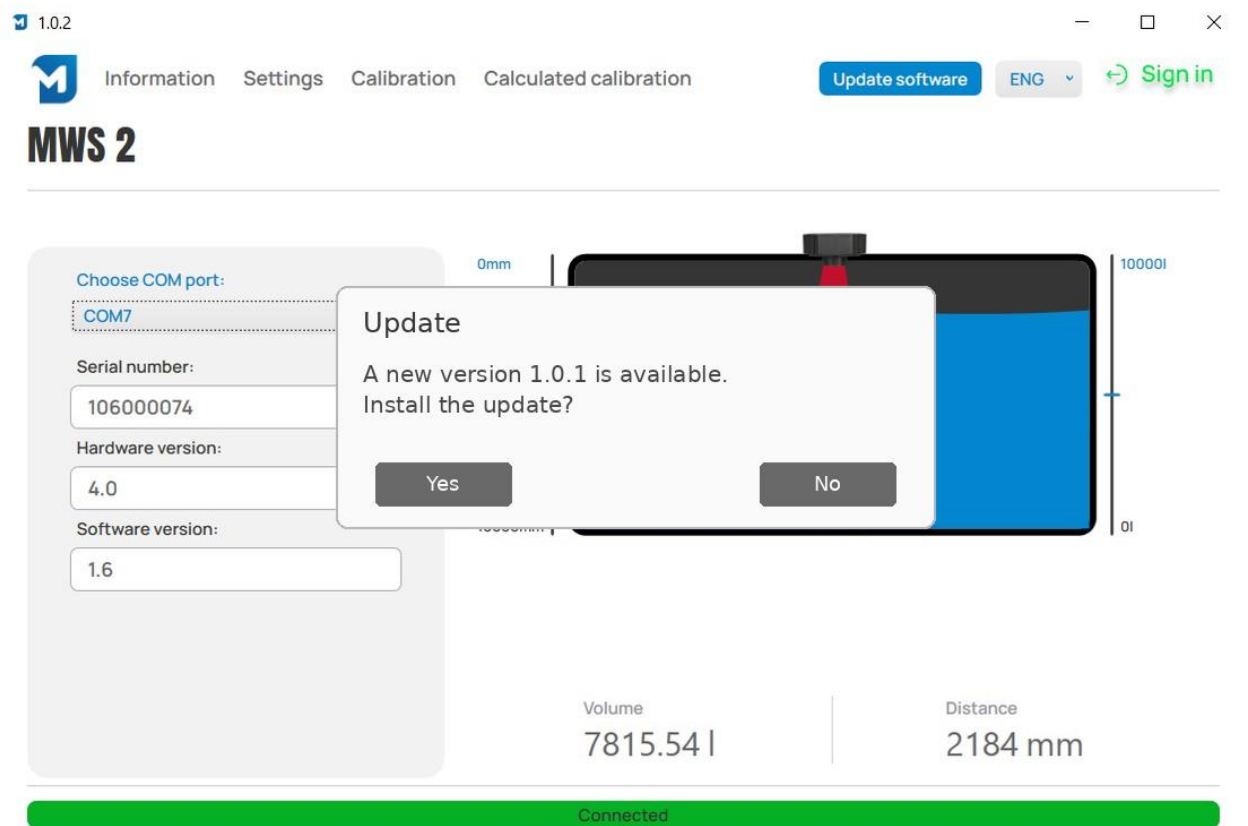

Fig. 10. Notification of a new software version
- 1) Download Configurator MWS from the eurosens MWS 2 product page and install it on your personal computer (PC).
- 3) Start the software. If an Internet connection is available and your Configurator version is outdated, the program will display a pop-up notification and offer to redirect you to cloud storage containing the new software version (Fig. 10).